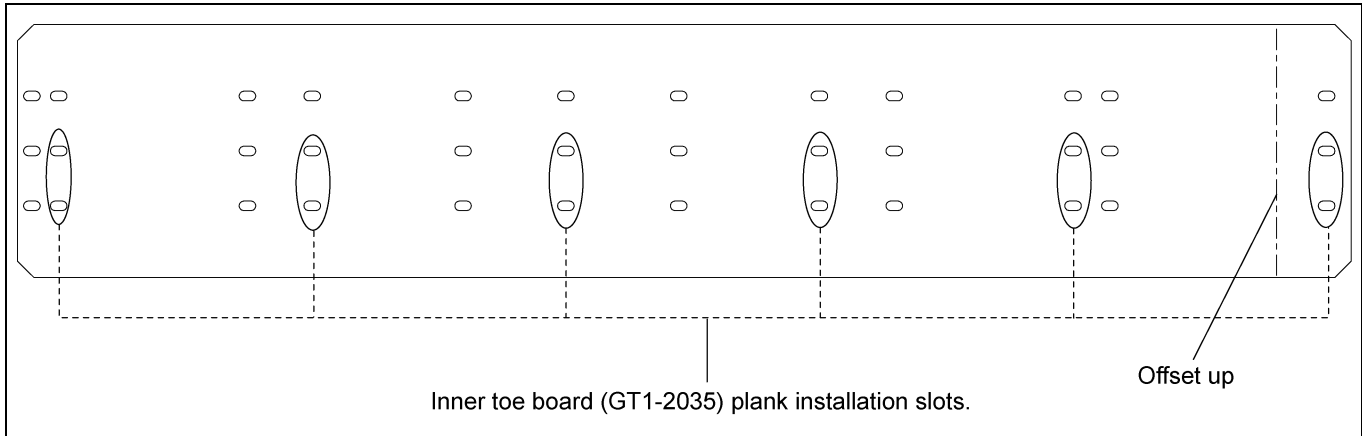

Figure 6N 18' Inner Toe Board (GT1-2035)
2. Inner toe board (GT1-2035) is arranged with many slots to install plank. Install offset and roof hatch planks to corresponding slots as shown in *Figure 6N*.